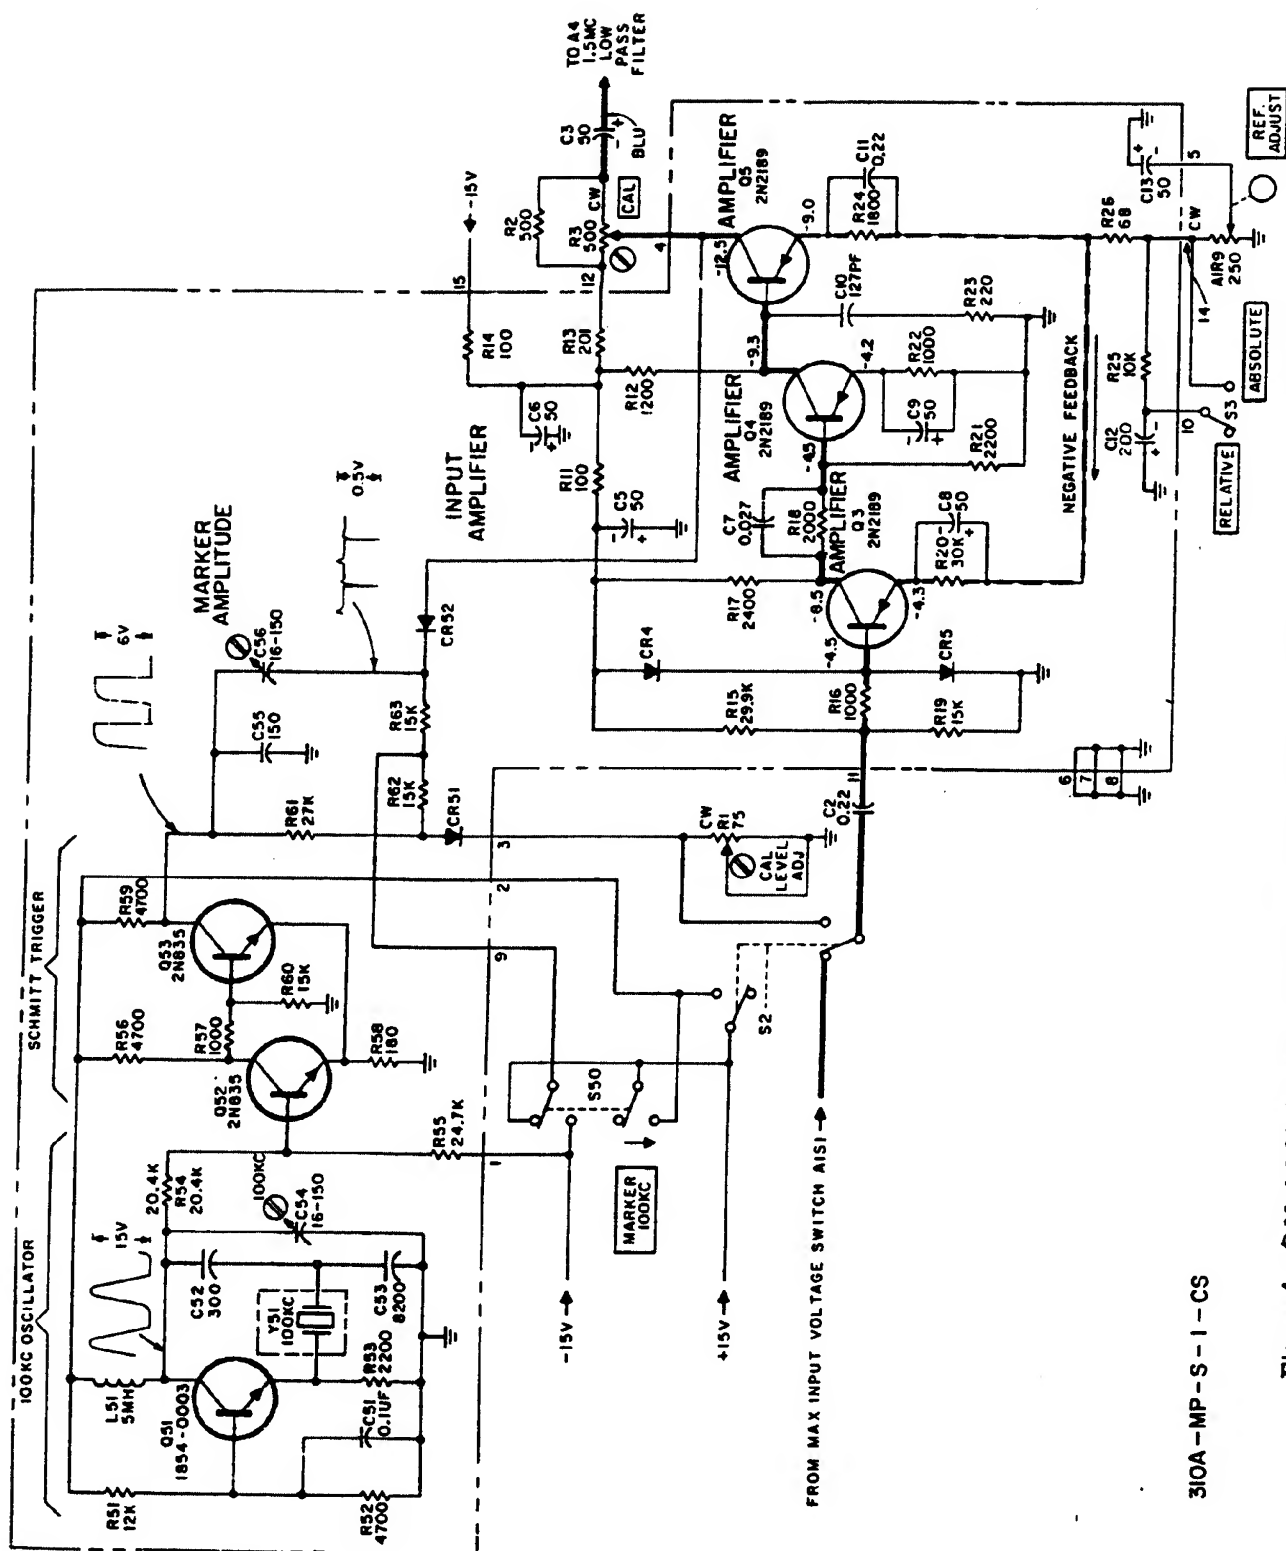

Figure 4. Model 310A Option 01 Input Amplifier-Frequency and Amplitude Calibrator Assembly,
20. Check wiring to ensure conformance with the schematic Figure 4.